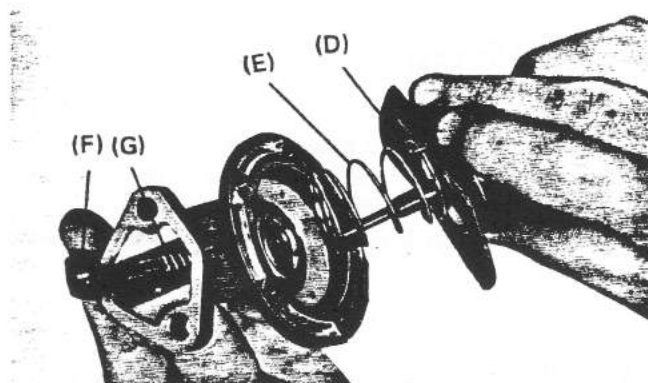
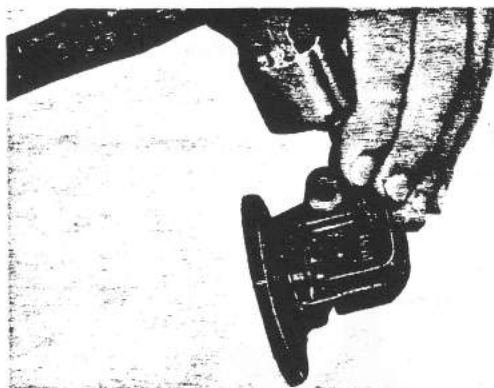

Fig. 173
Fig. 174
4. As shown in Fig. 174, pull out the pin, and remove the rocker arm (G) and rocker arm spring (F) from the body. (Fig. 173 and 174)